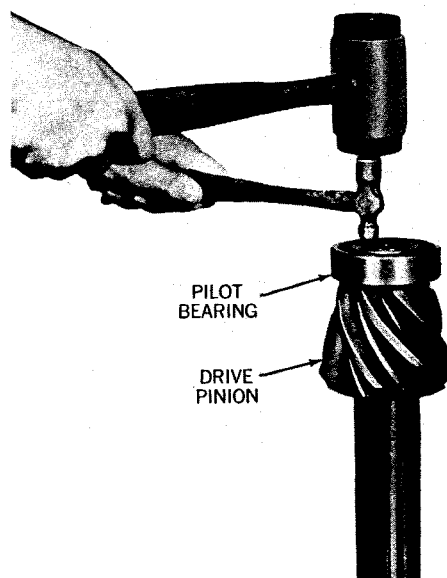

Fig. 45. Staking Pinion Pilot Bearing
- 1.** Press pinion pilot bearing on drive pinion, then stake as shown in figure 45.